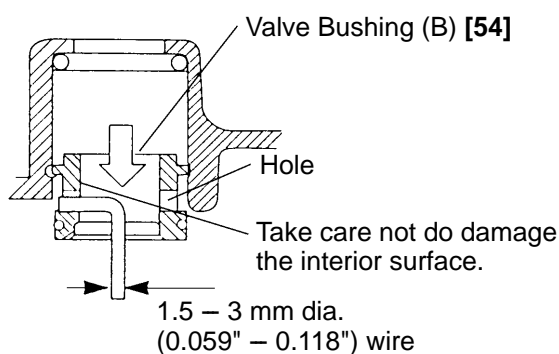

Fig. 8
- Exercise care not to damage Valve Piston (B) [57] and Valve Bushings (A) [63] and (B) [54].
- Do not draw out the tip end of Plunger (A) [61] with pliers or a similar tool.
- (3) Remove Valve Bushing (B) [54] as indicated in Fig. 8 by pulling it out with a 1.5 mm (0.059") to 3 mm (0.118") dia. wire bent at its tip and hooked into the hole of the bushing, while taking care to protect the bushing's interior surface from damaging.